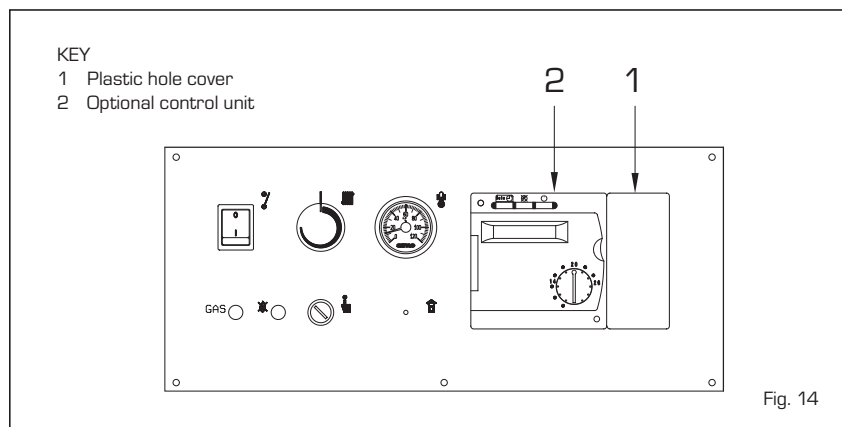

Fig. 14
optional control unit code 8096303, supplied with an outdoor temperature probe (SE) and boiler immersion probe (SC) (fig. 14). Use of the control unit requires connection of an additional series of low voltage connectors for connection of probes and the room temperature control unit (the connectors are supplied in a bag in the